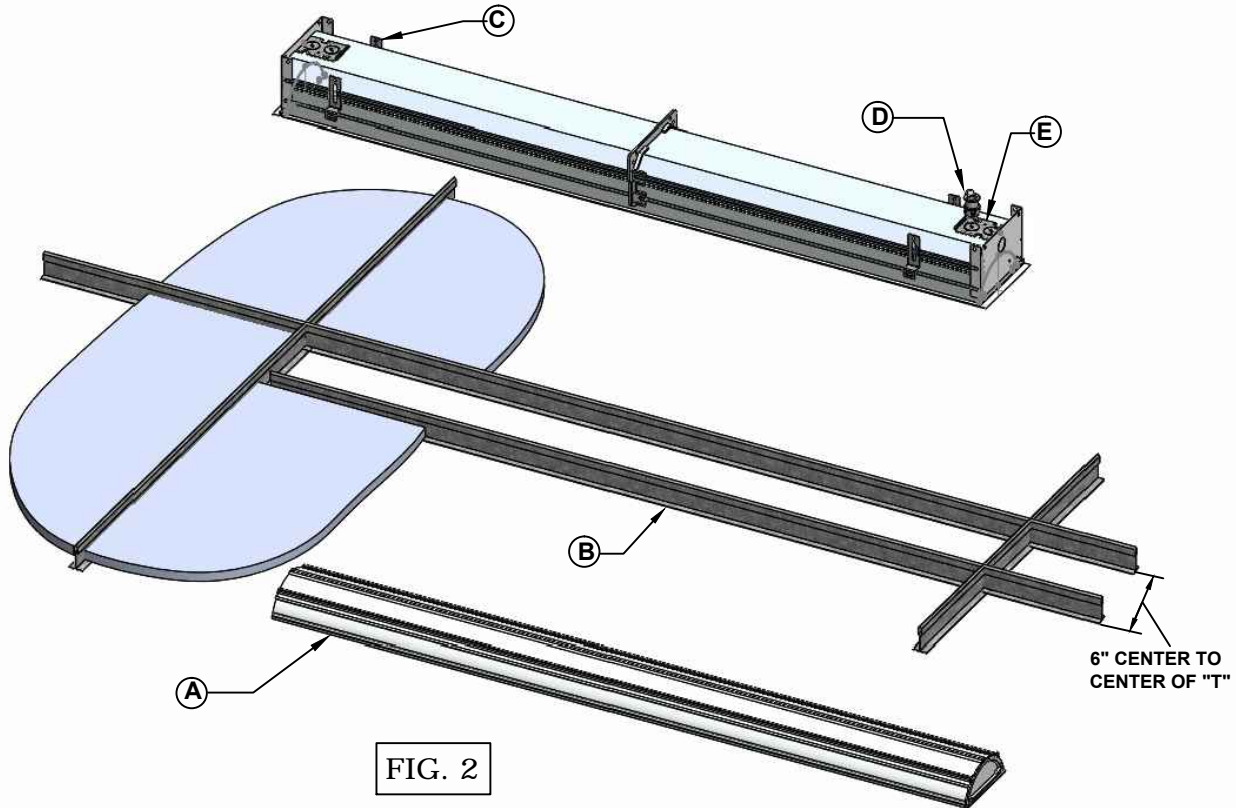

FIG. 2
REMOVE ACCESS PLATE (E) AND PULL FIXTURE LEADS OUT THROUGH OPENING. REMOVE KNOCK-OUT FROM ACCESS PLATE AND INSTALL CONDUIT FEED CONNECTOR (D) TO ACCESS PLATE. ATTACH GROUND WIRE TO INSIDE OF ACCESS PLATE AND MAKE OTHER WIRE CONNECTIONS MAINTAINING COLOR CODING OF WIRES. PUSH EXCESS WIRE INTO FIXTURE HOUSING AND SECURE ACCESS PLATE TO HOUSING INSURING THAT WIRES ARE NOT PINCHED BETWEEN FIXTURE AND ACCESS PLATE. (REF. FIG. 2)
**NOTE:** REFLECTOR ASSEMBLY (A) IS RETAINED IN HOUSING WITH SPRING CLIPS (F). REFLECTOR MAY BE REMOVED TO GAIN DRIVER ACCESS BY GENTLY PULLING THE REFLECTOR DOWN ON ONE END AND THEN THE OTHER END. TETHER WIRES WILL RETAIN REFLECTOR APPROXIMATELY 6" BELOW HOUSING. WHEN RE-INSTALLING REFLECTOR, TAKE CARE THAT ALL WIRES ARE NOT BEING PINCHED AND APPLY EVEN PRESSURE TO ALL FOUR CORNERS UNTIL IT IS FULLY SEATED WITHIN HOUSING.